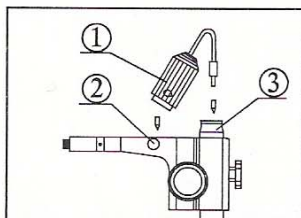

Fig. 6
- 1) Insert the illumination device ① in the bracket with the protrudent side toward the lock-screw ② and tighten the lock-screw. (Fig.6)
- 2) Put the plug in the socket of the pillar stand. ③